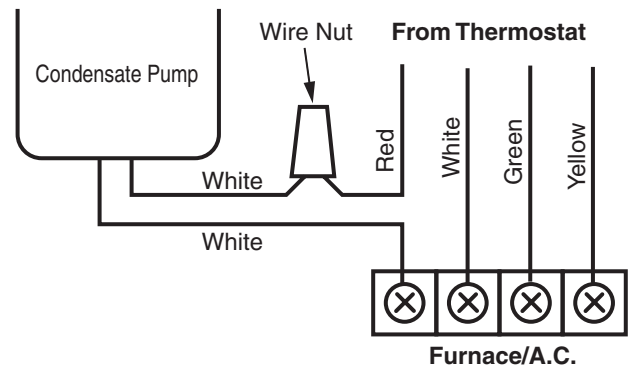

Figure 1: Low Voltage Auxiliary Safety Switch connection for Furnace/AC shutdown installation.
- Connect the red wire to one of the white wires from the safety switch as shown in Figure 1.